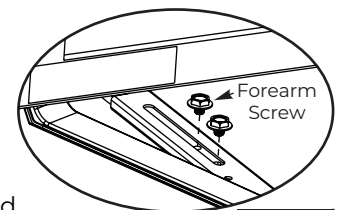

Figure 25
- While holding arm in position, secure rod to adjusting tube with forearm screw. (Figure 25)